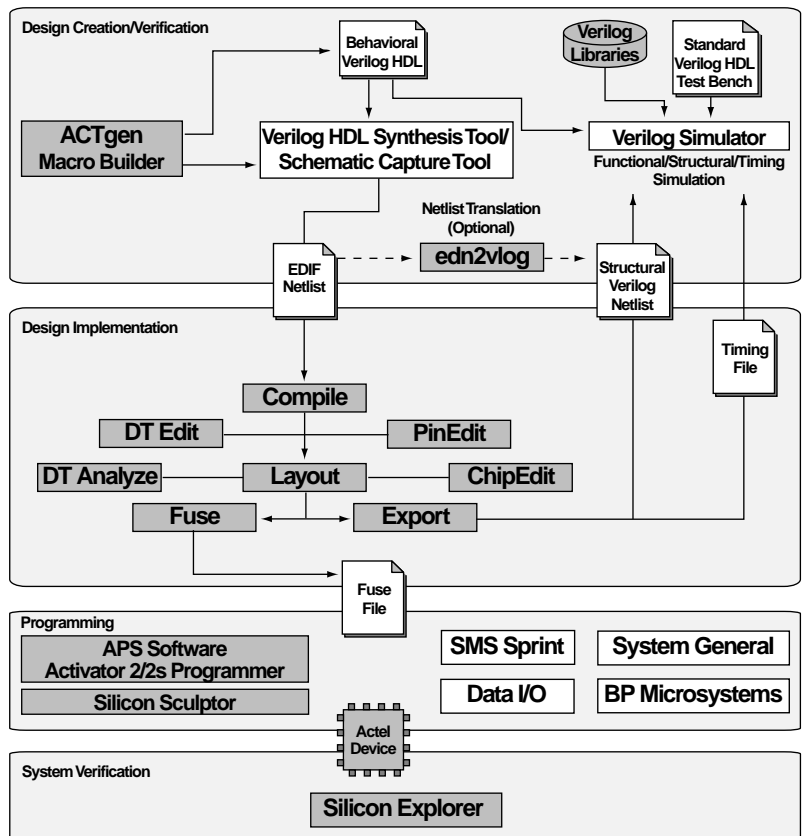

Figure 2-1. Actel-Verilog Design Flow
Figure 2-1 shows the design flow for an Actel device using CAE software, a Verilog simulation tool, and the Designer Series software1.
1. Actel-specific utilities/tools are denoted by the grey boxes in Figure 2-1.